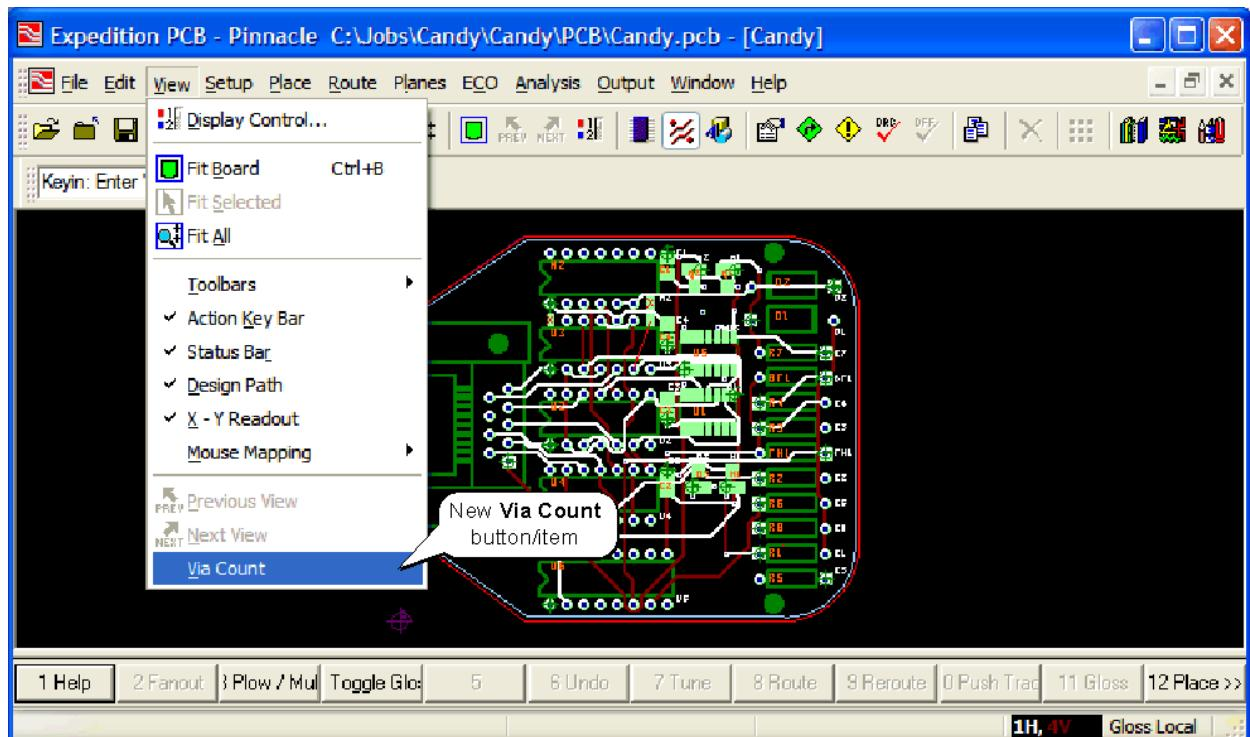

Figure 6-3. The new Via Count button/item.
- 2) At this stage you may open a layout design of your choice, however, you are not obliged to do so – see also point (6).
- 5) Observe that after you've run this script it exits and nothing seems to have happened. In reality, however, this script has established a new menu button/item as illustrated in Figure 6-3.